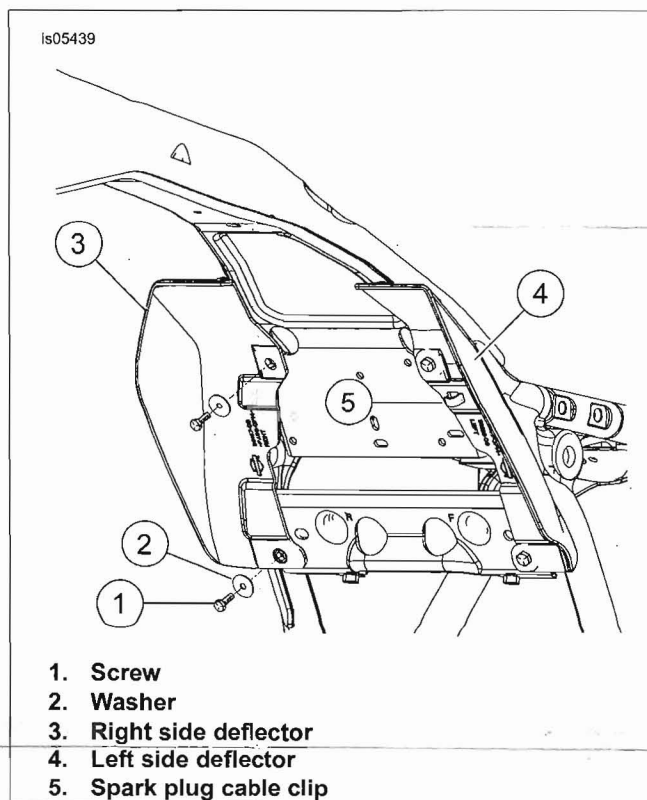

Figure 2. Installing air deflectors
3. See Figure 2. Clip the speed nuts (3) through the large hole with the flat side on the underside of the frame plate, and align the threaded holes to the small mounting holes in the plate.
5. Install a washer to a screw and install the screw through the lower mounting hole into the special nut (4).
10. See Figure 2. Clip the rear spark plug wire to the left deflector using the clip (5) molded into the deflector.